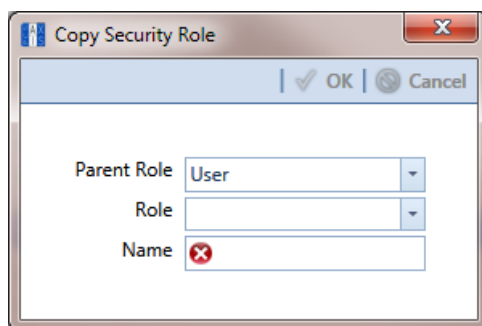

Figure 3-18. Copy Security Role
- 2 Click  **Copy** to open the *Copy Security Role* dialog box (Figure 3-18).